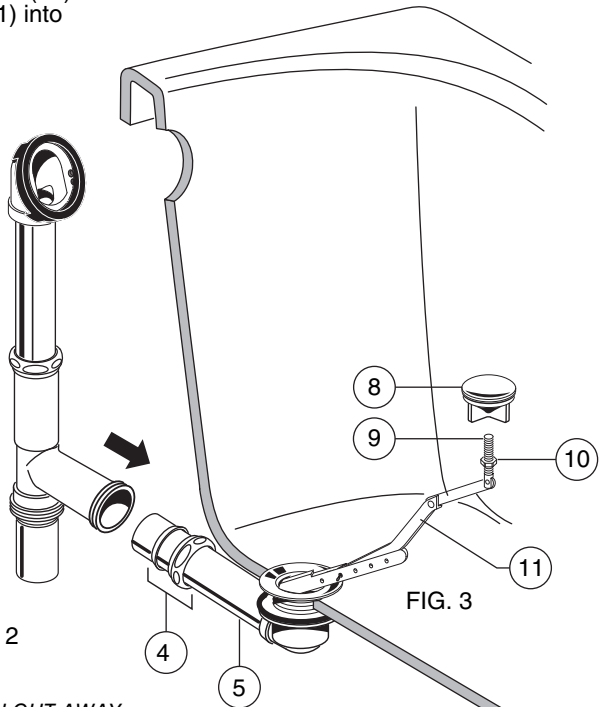

FIG. 2
- Loosen SLIP JOINT NUT & SEAL (4) and install onto DRAIN ELL ASSEMBLY (5). Install DRAIN ELL ASSEMBLY (5) into the horizontal leg of the DRAIN TEE (3). FIG 2.